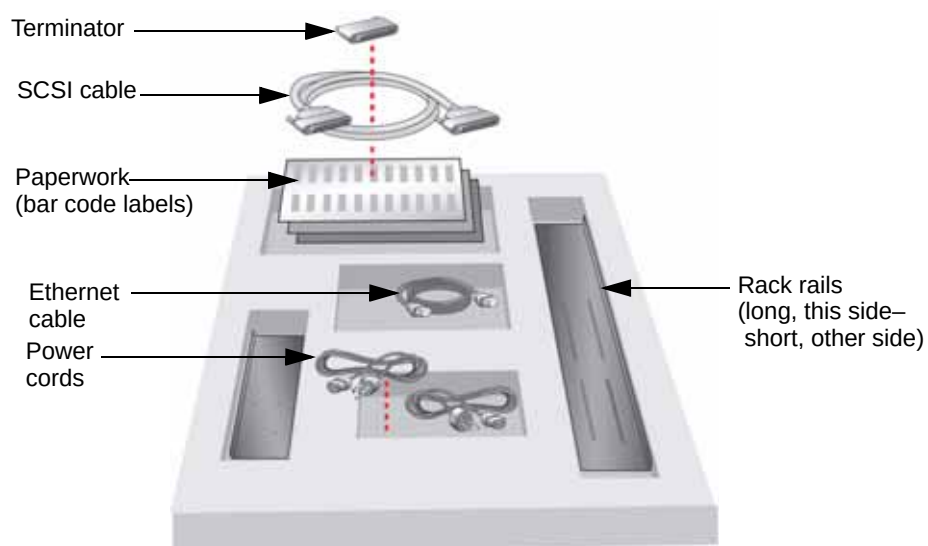

Figure D-10 Accessory item placement in shipping box
- If you are shipping the accessories with the library, insert them in the openings as shown in Figure D-9 and Figure D-10.